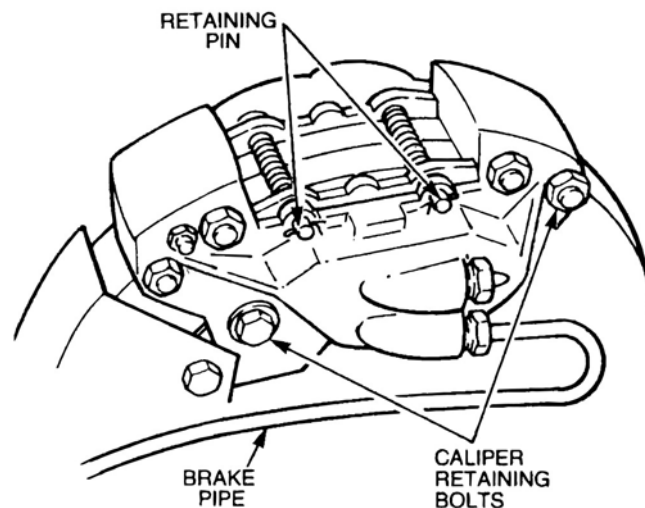

Figure 2 Rear Brake Removal
18. **Removal.** Remove the rear brake pads and caliper (Figure 2) as follows:
- 22. Installation.** Install the rear brake pads and caliper (Figure 2) as follows: